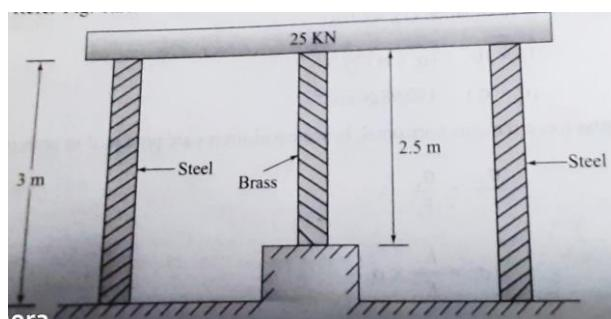

Fig. 5
5. Two steel rods and one brass rod, each of 30mm diameter are arranged vertically to take load of 25 kN as shown in **Fig. 5** below. Find stresses in steel and brass rods. Take $E_{st} = 200 \text{ GPa}$ and $E_b = 100 \text{ GPa}$.